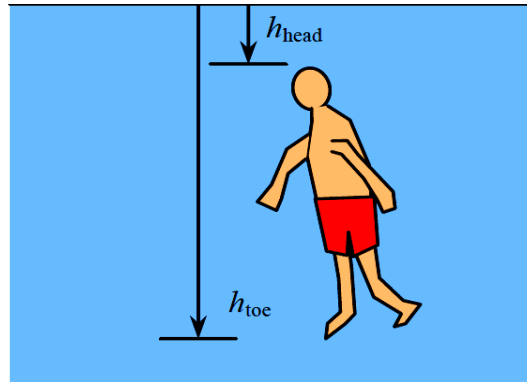

Figure 1: Suspended silicone body in the water
- (c). **Figure 1** shows a solid silicone body is standing in water vertically while being completely submerged. Determine the difference between the pressure acting on the top and the pressure acting on his toes.